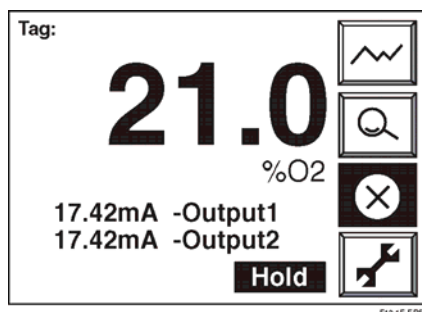
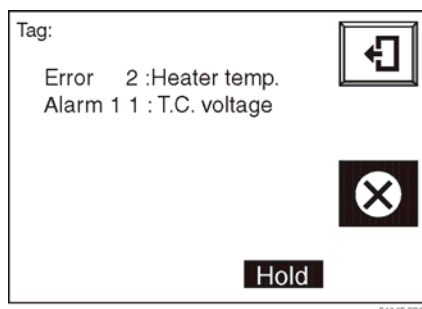

Figure 12-1 Error indication display
Figure 12-2 Error description display
2. Initiates a blinking error indication on the display (Figure 12-1).
When the display shown in Figure 12-1 appears, pressing the error indication brings up a description of the error (Figure 12-2). The possible errors are listed in Table 12-1.